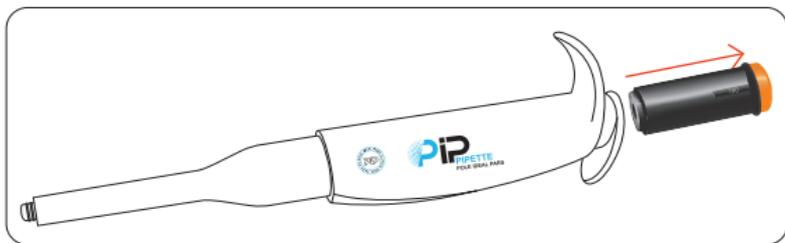

Figure 20. Disassembling the Push Button
▶ Before autoclaving, take out the push button. (figure 20)